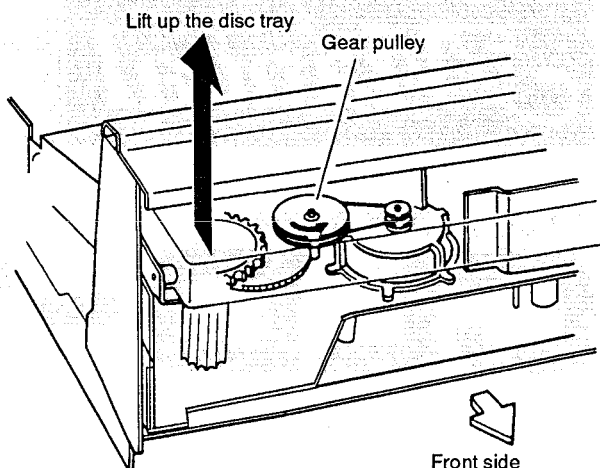

Fig. 3
- ④ Lift up the front side of the disc tray to enable the gear pulley to be turned by hand. (Fig. 3)
- ⑤ Turn the gear pulley (Fig. 3) counterclockwise by hand.
- ⑥ After the disc tray is lifted up and moved toward you, tighten two screws (B) which were removed in step 3.
- ⑦ Pull out the disc tray toward you by hand.